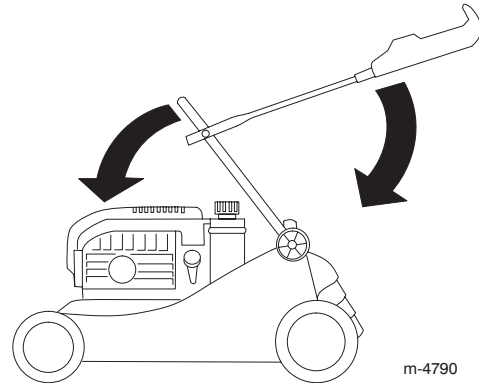

Figure 29
3. Carefully swing the lower handle section forward until it rests on the engine (Fig. 29).
4. Carefully swing the upper handle section rearward until it rests flat (Fig. 29).